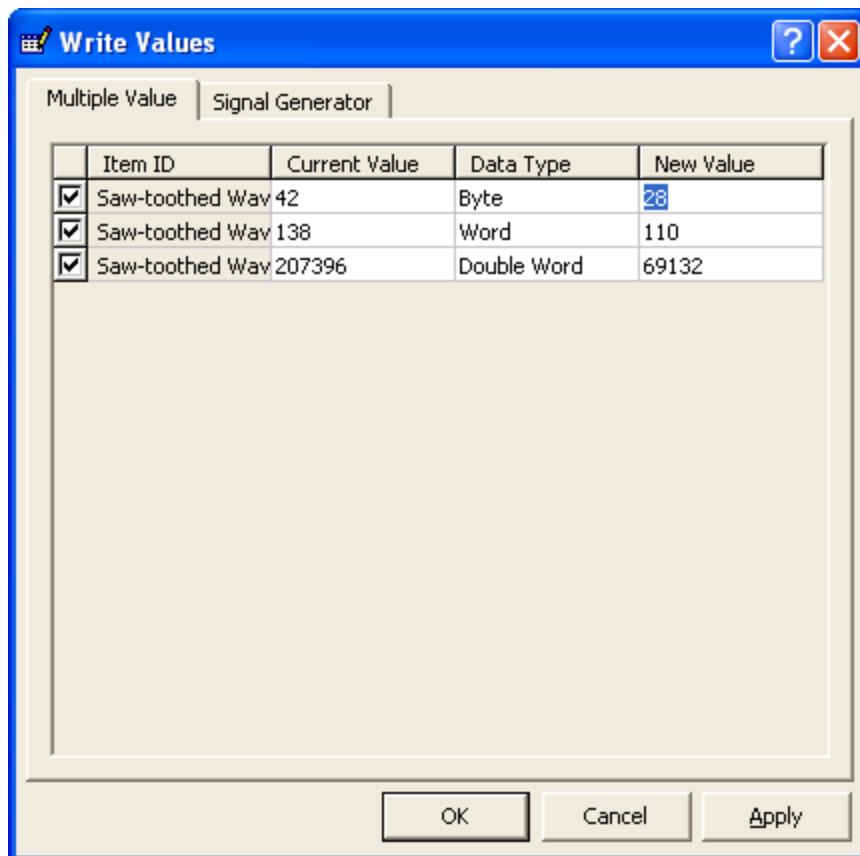

Figure 27 - Write Values Window (Multiple Value Tab)
3. The **Write Values** window (Figure 27) is displayed with the **Multiple Value** tab selected.